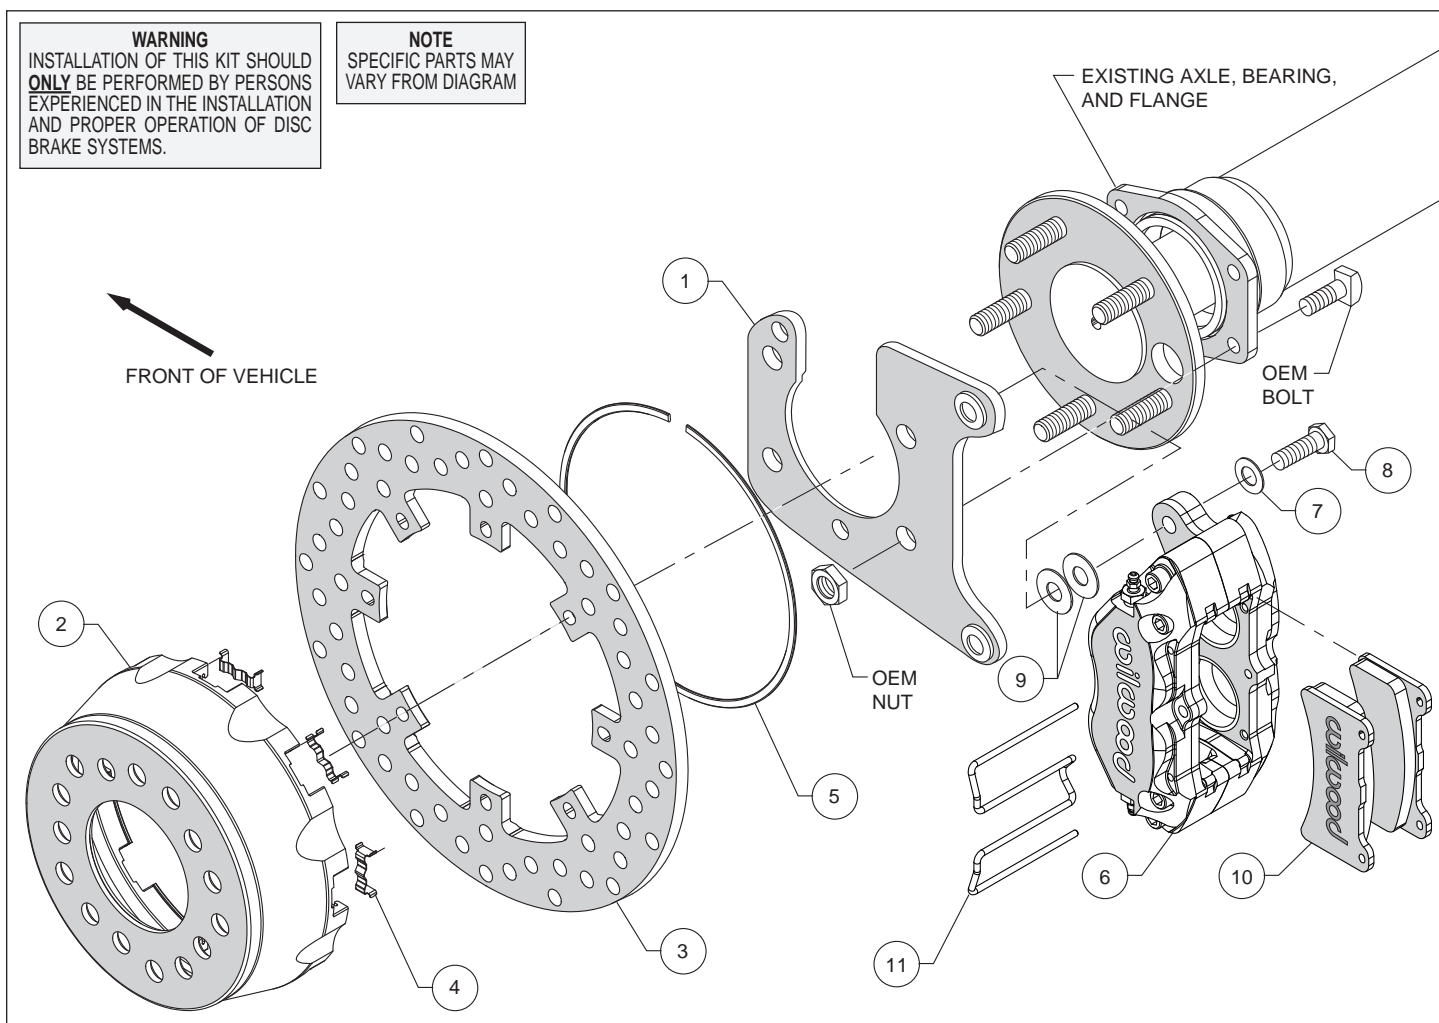

Figure 1. Typical Installation Configuration
**Assembly Instructions** (numbers in parenthesis refer to the parts list and Figure 1 on the preceding pages): **CAUTION:** All mounting bolts must fully engage clinch nuts. Be sure to check that all bolts are either flush or protruding through flanged side of clinch nut after shimming, Figure 5.
- Install the caliper mounting bracket (1), with the slot for the axle pointing upward, to the housing flange using the OEM bolts and nuts, as shown in Figure 1 and Photo 1. Ensure that the heads of the clinch nuts are facing outboard, Photo 1. Apply red *Loctite*® 271 to the OEM bolt threads and torque to OEM specifications.
- Insert the dynamic mount wear plates (4) into the slots in the hat (2) making sure the tabs snap in place, Photo 2. Orient the rotor (3) as shown in Figure 1 and Photo 3, with the flush mount tab side facing the hat. Attach the rotor to the hat using snap ring (5) by pushing down on the rotor and installing the ring into the groove in the hat, as shown in Photo 4. Ensure that the ring is fully engaged in the groove.
- Align the correct hole pattern in the hat (2) with the axle stud pattern and slide the hat/rotor assembly onto the axle hub. **NOTE:** The hat must fit flush against the axle flange or excessive rotor run out may result. Install three lug nuts (finger tight) to keep the hat/rotor in place while continuing with the installation. **NOTE:** The hats included in this brake kit are drilled for .68" diameter wheel studs.
- **NOTE:** Please reference the caution statement at the beginning of the assembly instructions. Mount one caliper (6) onto the mounting bracket (1) using bolts (8) and washers (7), as shown in Figure 1. Initially place two .035" thick shims (9) on each bolt between the caliper and the bracket, Photo 5. Temporarily tighten the mounting bolts and view the rotor (3) through the top opening of caliper. The rotor should be centered in the caliper, Photo 6. If not, adjust the caliper by adding or subtracting shims between the bracket and the caliper. Always use the same amount of shims on each of the two mounting bolts. **NOTE:** The end of each bolt must be flush with or slightly protruding from the head of the clinch nut. If necessary, place spare shims between washer and caliper mounting ear to achieve the proper clinch nut engagement, as shown in Figure 5. Once the caliper alignment and clinch nut engagement are correct, remove the bolts one at a time, apply red *Loctite*® 271 to the threads, and torque to